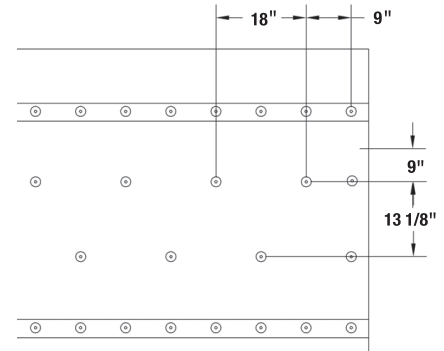

Figure 2-1 (Fastening)
2. **Install MA Base Sheet (Where Required)...** using nails with 1" cap heads. Fasten every 9" in the lap and stagger 2 rows in the field every 18" (Figure 2-1). Cover the entire roof area.